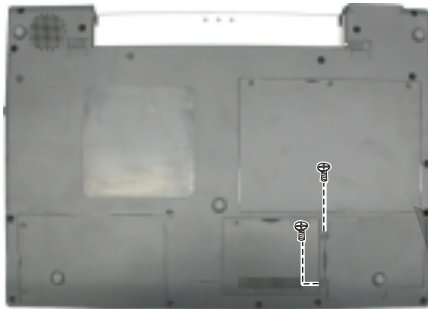

Figure 2-11 Remove two screws
2. Remove two screws fastening the Mini PCI compartment cover. (Figure 2-11)